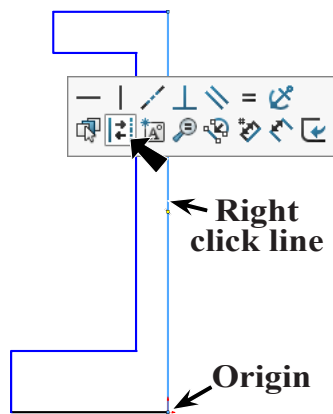

Fig. 2
Step 3. Click **Line** (L) on the Sketch toolbar.
Step 4. Sketch lines, **Fig. 2**. Sketch the vertical centerline up from the Origin